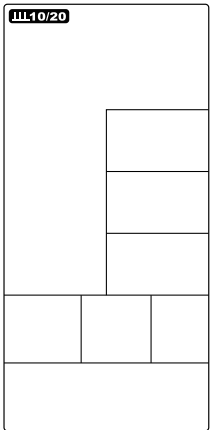
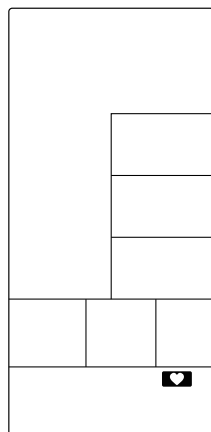

Figure 4
Figure 16
2. The window of **INTERVAL10/20** **INTERVAL20/10** **INTERVAL_CUSTOM** **READY** **WORK** **RESET** **TIME** **DISTANCE** **CALORIES** **WATT** **SPEED** **RPM** and  will flash by sequence in every 1s (Figure 4~Figure 16).